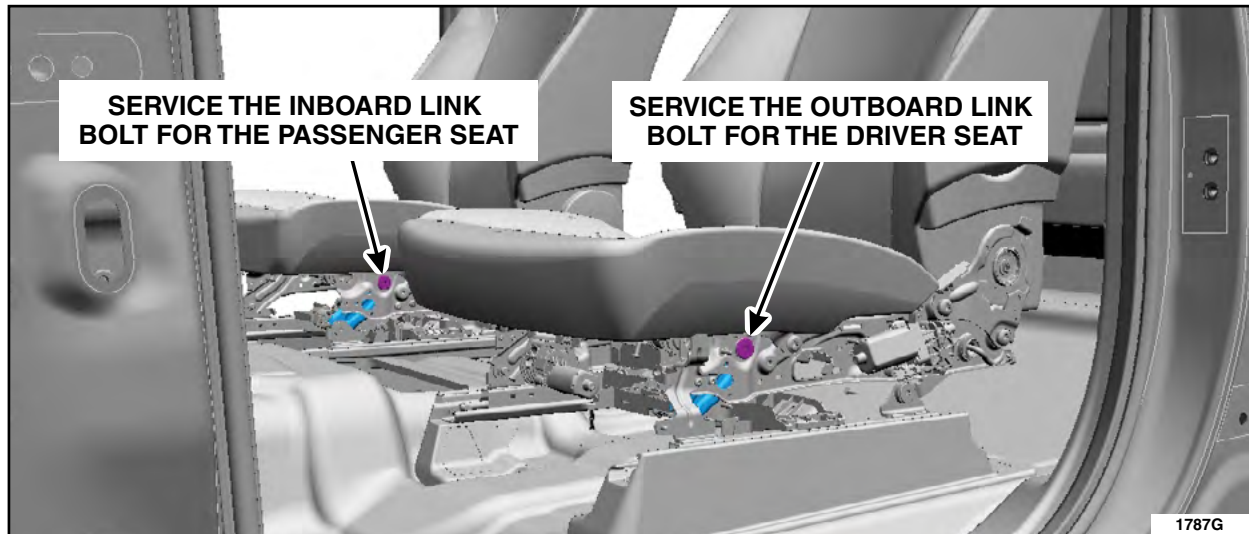

FIGURE 1
NOTE: The affected seat track pivot link will be located on the outboard side of the drivers seat, and the inboard side for the passenger seat. See Figure 1.
5. Check the upper pivot link bolt break-away torque. Using a torque wrench set to 10 Nm (7 ft-lb), attempt to loosen the seat track upper pivot link bolt. See Figure 1.
6. Remove the seat track upper pivot link bolt. See Figures 1 and 2.